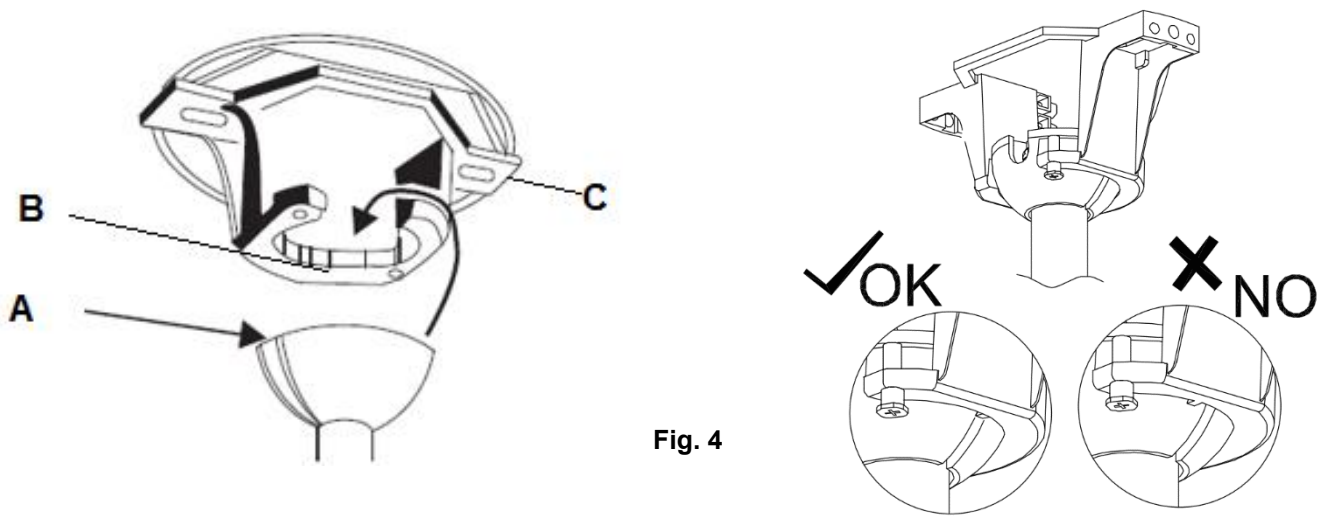

Fig. 4
Lift the fan assembly onto the mounting bracket. Ensure the key slot (A) of the hanger ball is positioned on the key pin (B) of the mounting bracket (C) to prevent the fan from rotating when in operation. (Fig.4)